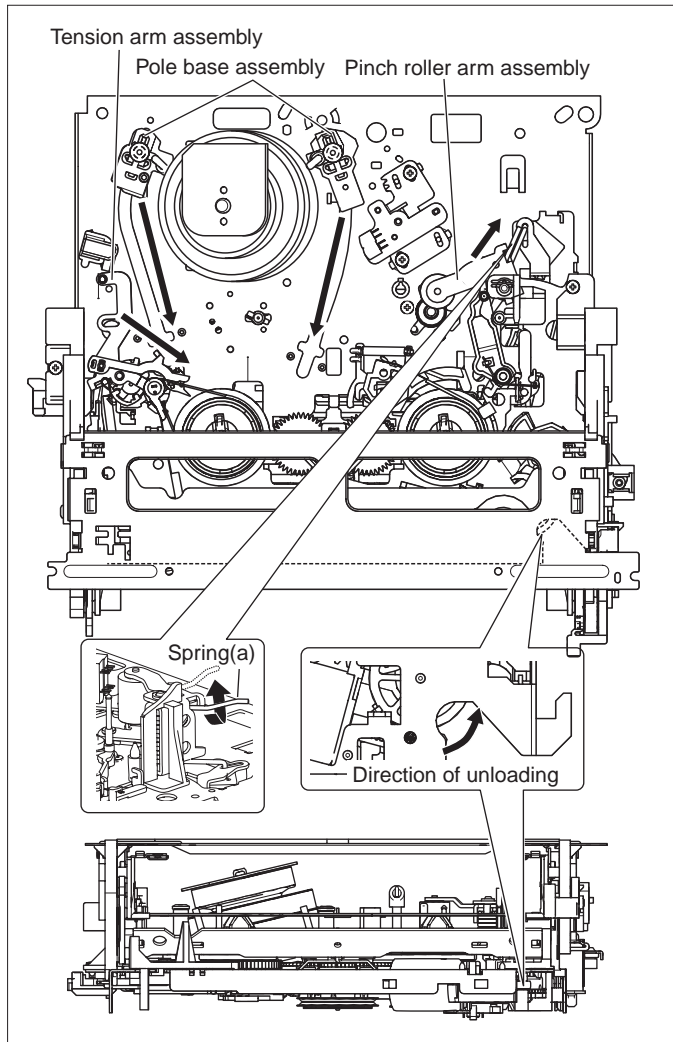

Fig. 1-1b
- (3) Unload the pole base assembly by manually turning the gear of the loading motor until the pole base assembly is hidden behind the cassette lid. In doing so, hold the tape by the hand to keep the slack away from any grease. (See Fig. 1-1b.) In case of mechanical failures, while keeping the tension arm assembly free from tension, pull out the tape on the pole base assembly. Take the spring(a) of the pinch roller arm assembly off the hook, and detach it from the tape.
- (4) Remove the screw (a) of the side frame (L/R).
- (5) Hold the slack tape and cassette cover together, lift the cassette tape, top frame, cassette holder and side frames (L, R) together from the rear and remove them by disengaging the hooks (a) and (b).